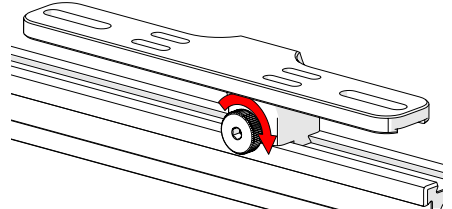

Fig. 147 - Tighten knob
2. Tighten the knob to lock the preamp bracket in place (Fig. 147).